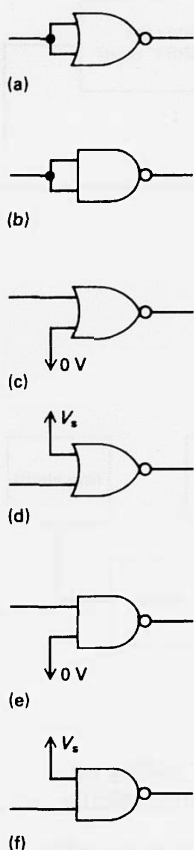

Figure C63
- 8(P)** Figure C63 shows some simple applications of NOR and NAND gates. Draw a truth table for each circuit and describe what each will do.